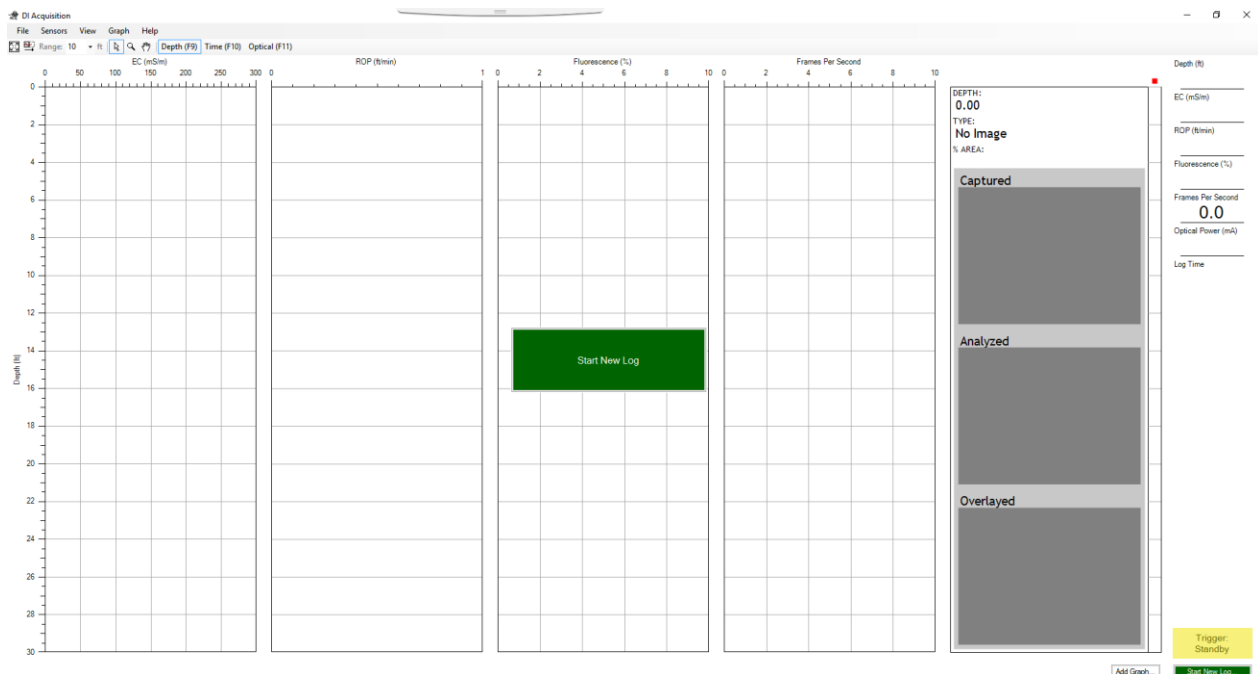

Figure 5.1 DI Acquisition in OIP mode
5. Start the DI Acquisition Software. DI Acquisition should open in OIP mode (Fig. 5.1).